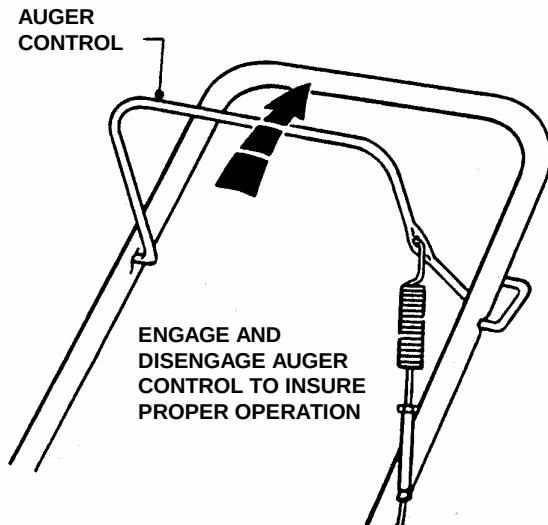

FIGURE 3.1
3.1.2. Check auger control to insure it works freely. See Figure 3.1.